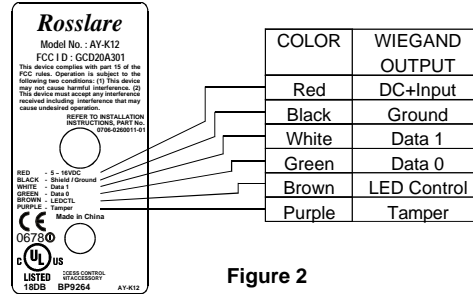

Figure 2
3. Splice the Reader pigtail wires to the corresponding Controller wires and cover each connection (see Figure 2).
Figure 2 below shows how you should wire the Reader to the Controller.